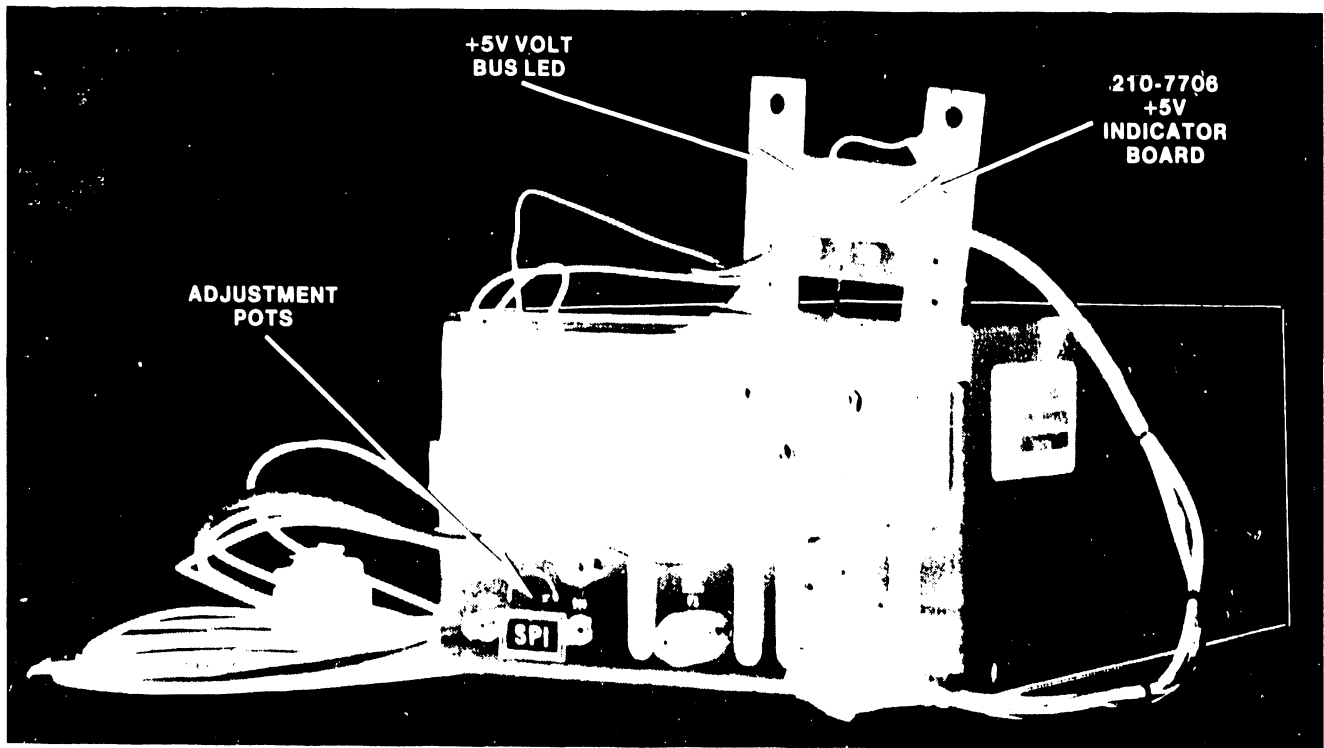
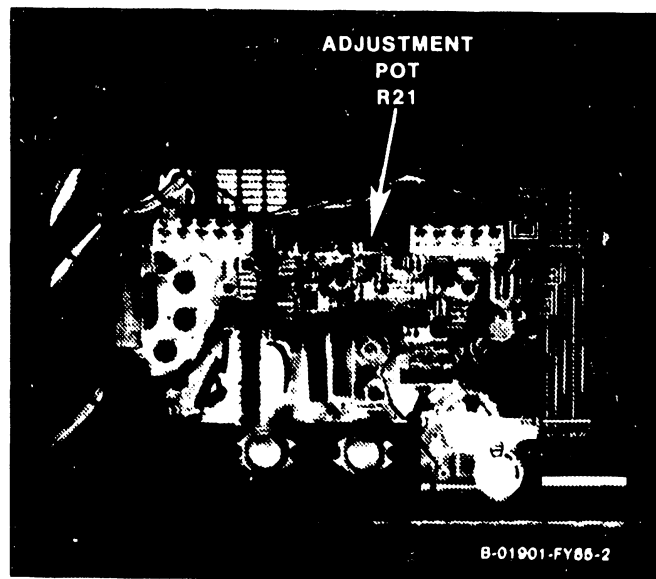

Figure 4-9A. VS-85/85-H Switching Power, Inc. Switching Power Supply
Figure 4-10. VS-85-H Switching Power, Inc. +24-Volt Power Supply
- 2. Adjust the voltages to the test point readings (below) using the potentiometers on the front of the switching power supply (figures 4-9A and 4-9B) and on the side of the 24-volt supply (figures 4-10 and 4-11).